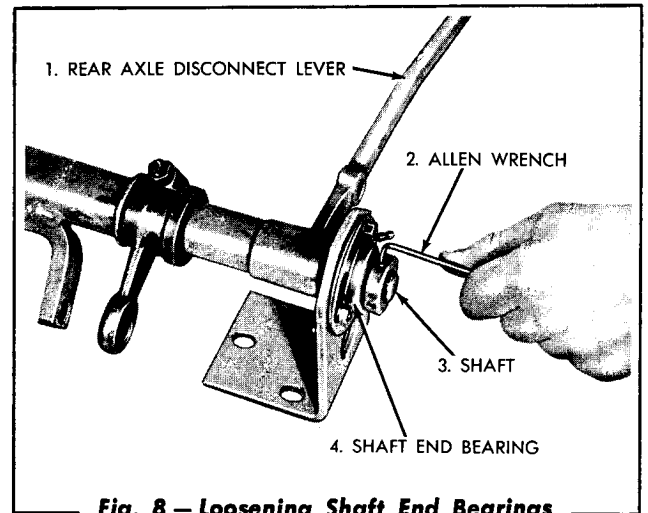

Fig. 8 — Loosening Shaft End Bearings from Shaft
- a. Loosen the Allen head set screws that secure the shaft end bearings to the shaft. (Fig. 8).
- a. Do not reverse the positioning of the left and right directional levers on the shaft. (Refer to Fig. 8 and 9.)
- b. Install the rear axle disconnect lever with the large end of the boss toward the center of the assembly. (Refer to Fig. 8.)